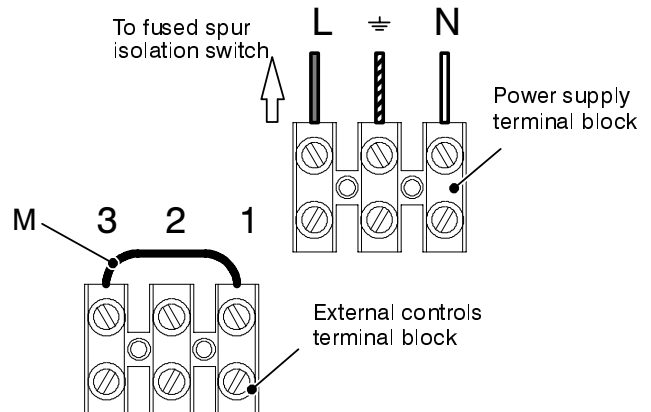

Fig. 6.15
- 6 Connect the electrical supply flexible cord coming from the fused spur isolation switch to the power supply terminal block of the boiler (Fig. 6.15) keeping the same connections for the live (brown wire) and the neutral (blue wire). External 3 A fuse or fused plug with same current rating is recommended.
**When connecting any type of external control, the link M in Fig. 6.15 must be removed.**